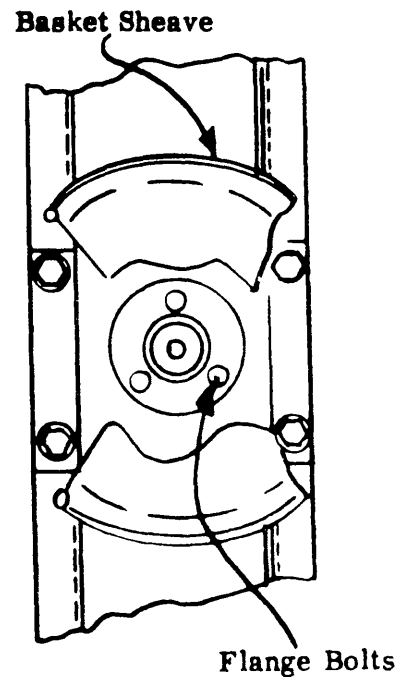

FIGURE 3
1. LOOSEN THREE BOLTS IN REAR BEARING FLANGE, FIGURE 3, AND LOOSEN BEARING COLLAR. LOOSEN COLLAR ONLY ON FRONT BEARING.
4. Maximum opening of air switch must be no greater than 3/4" (Fig. 3). Bend tab "F" in or out to maintain this dimension.